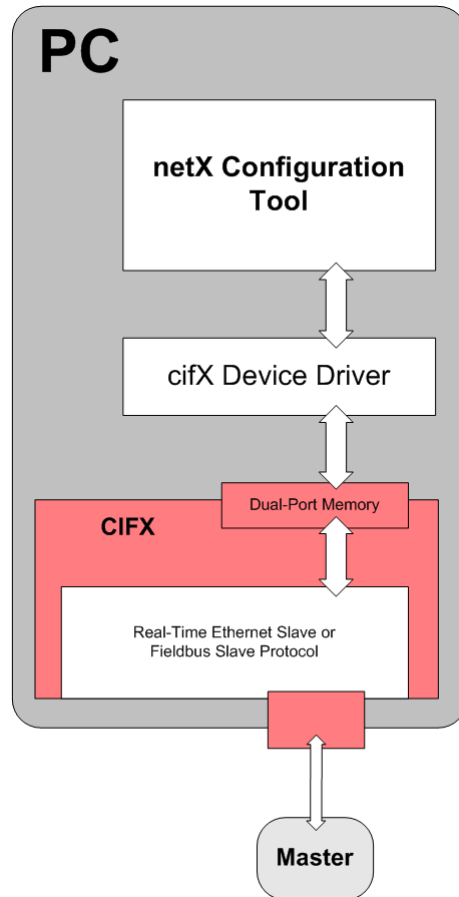

Figure 38: System Overview CIFS and netX Configuration Tool
- with the program **netX Configuration Tool** (only Slave) as shown in *Figure 38* on page 97.